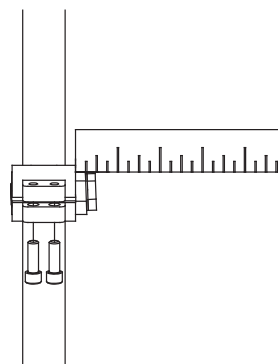

Figure 59
5. The amount of the camber plug that extends outside of the camber plug clamp affects the rear wheel spacing. The less of the camber plug that extends outside the camber plug clamp, the narrower the rear wheel spacing. The more of the camber plug that extends outside the camber plug clamp, the wider the rear wheel spacing. However, the distance from the camber plug clamp to the end of the camber plug should never exceed 1". Make sure the distance from the outside edge of the camber plug to the end of the camber plug is identical on each side of the chair. See Figure 59.